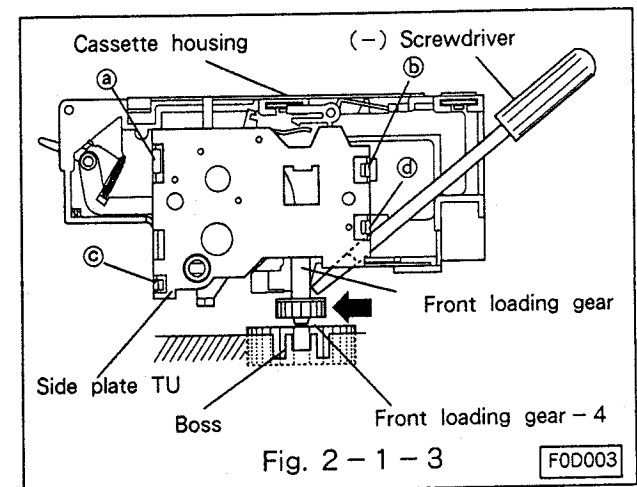

Fig. 2-1-3
- In step A above, if the front loading gear of the cassette housing does NOT engage the boss on the main plate, carefully push the gear toward the front of the VCR using a small-diameter screwdriver, as illustrated in Fig.2-1-3. If the gear still will not engage, rotate the Front Loading Gear a few degrees from the below the deck until the gear engages the boss correctly.
2-2-1 Removal (Refer to Fig. 2-1-3~2-2.)
- Unfasten four snaps (a, b, c and d) as shown in Fig.2-1-3, and remove the side plate TU.
2-2-2 Installation (Refer to Fig.2-1-3~2-2.)
- Install the side plate TU to the cassette housing, and secure it with four snaps (a, b, c and d) as shown in Fig.2-1-3,